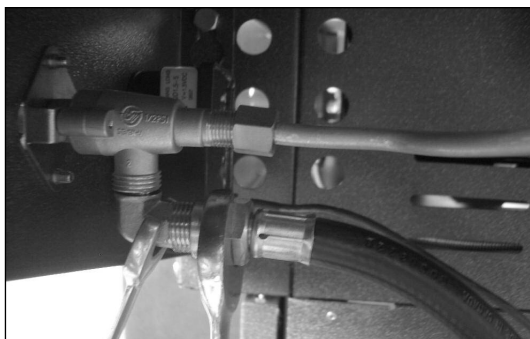

Fig 1
1. Use a 3/4" wrench disconnect the hose from the side burner valve and pull the hose back into the cart. (See Fig. 1)
10. Move to hear and make new step carefully run the supplied hose from the inside of the cart through the grommated hole in the cart side to the side burner assembly. Connect the end of the hose to the NG valve assembly. (See Fig. 1 on page 2).